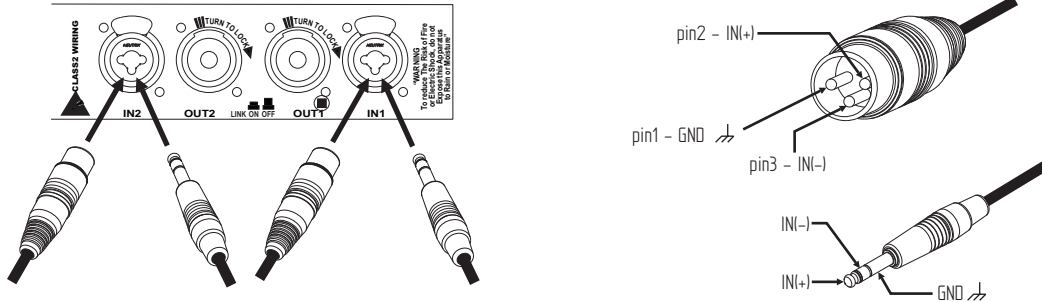

figure 1.5.1
**1.5 Connecting Inputs.** Input connections are made via the 3-pin XLR-female type or 1/4" phone Jack connectors on the rear side of the amplifier. The polarity is shown in figure 1.5.1.